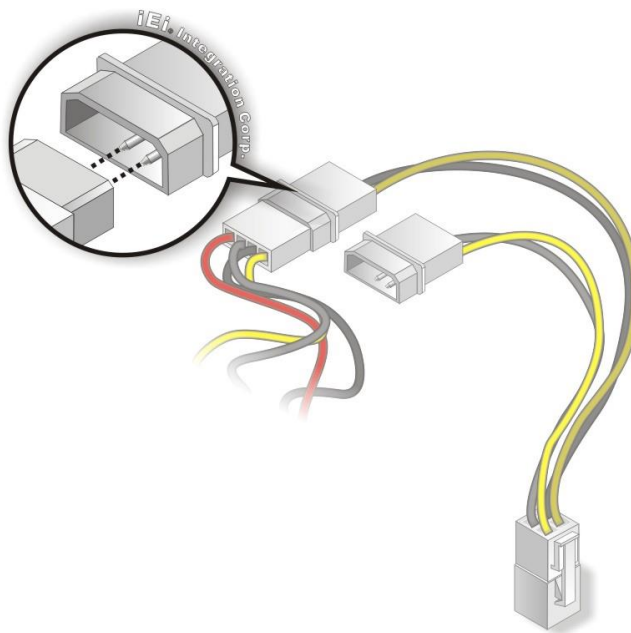

Figure 4-10: Connect Power Cable to Power Supply
Step 3: Connect power cable to power supply. Connect one of the 4-pin (1x4) Molex type power cable connectors to an AT power supply. See **Figure 4-10**